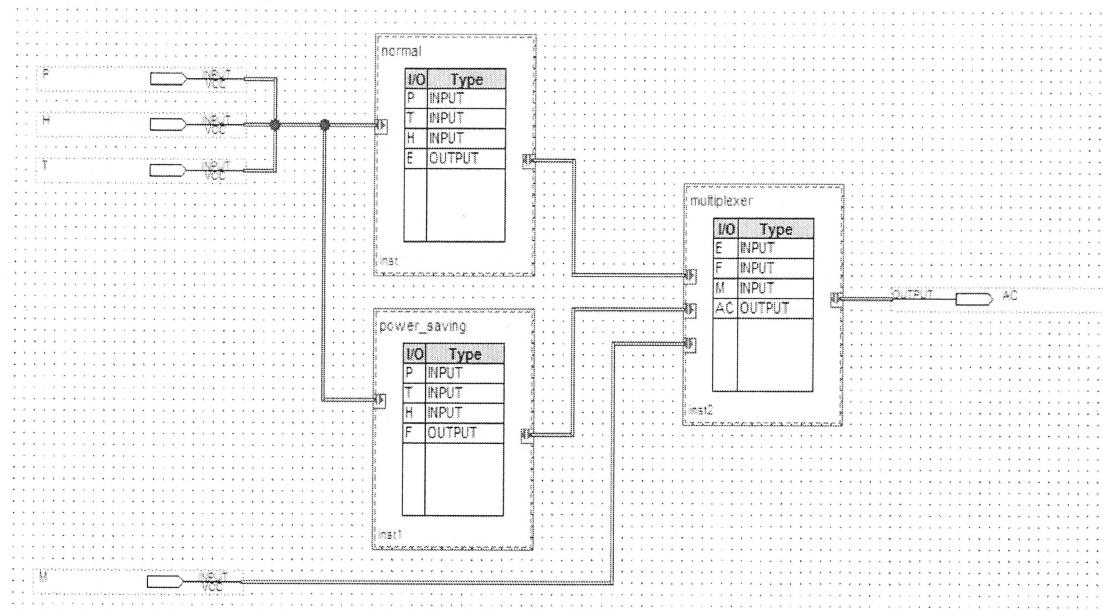

Figure 2: Final Layout of Lab4step2.
- Next, create the blocks that would represent the A/C components. Click on the block tool from the upper toolbar (see Figure 2). Left click anywhere on the blank block diagram file and drag your mouse. Repeat this process 2 more times. The three blocks would represent the components of your A/C system. Right click on the 1st block and click **Properties**, rename the block normal, click on I/O tab and enter P,T,H as inputs and E as the output. Repeat the same step for the other blocks. Make sure that the naming convention is same as mentioned in the problem statement above.
- Enter 4 inputs pins (P, H, T, M) and one output pin (AC) in the design file.